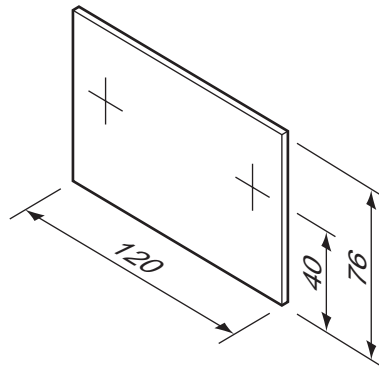

Fig. 9
- (b) Fig. 9 shows the aluminium blank from which the holder will be made.